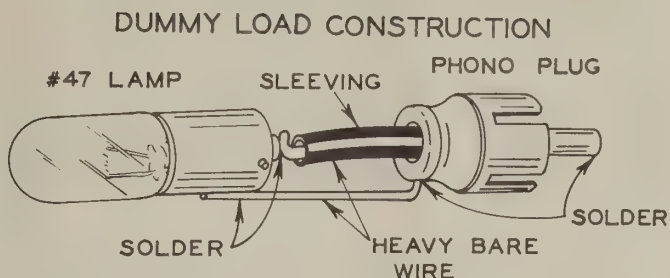

Figure 7
- (✓) Construct the dummy load by carefully following Figure 7.